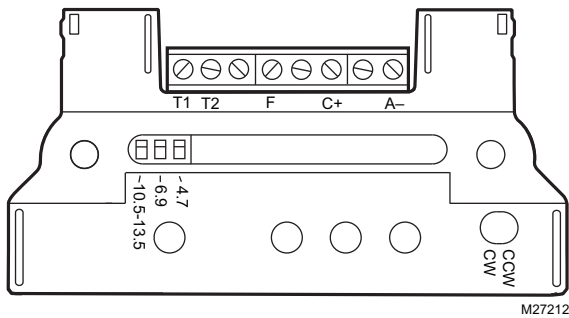

Fig. 3. Q7130A terminals and adjustments.
6. Connect field wiring to screw terminals on terminal block. See Fig. 3, 5, and 9 for terminal designations. Trim wire ends neatly and tin with solder.
Q7130A Adjustments (Fig. 3)